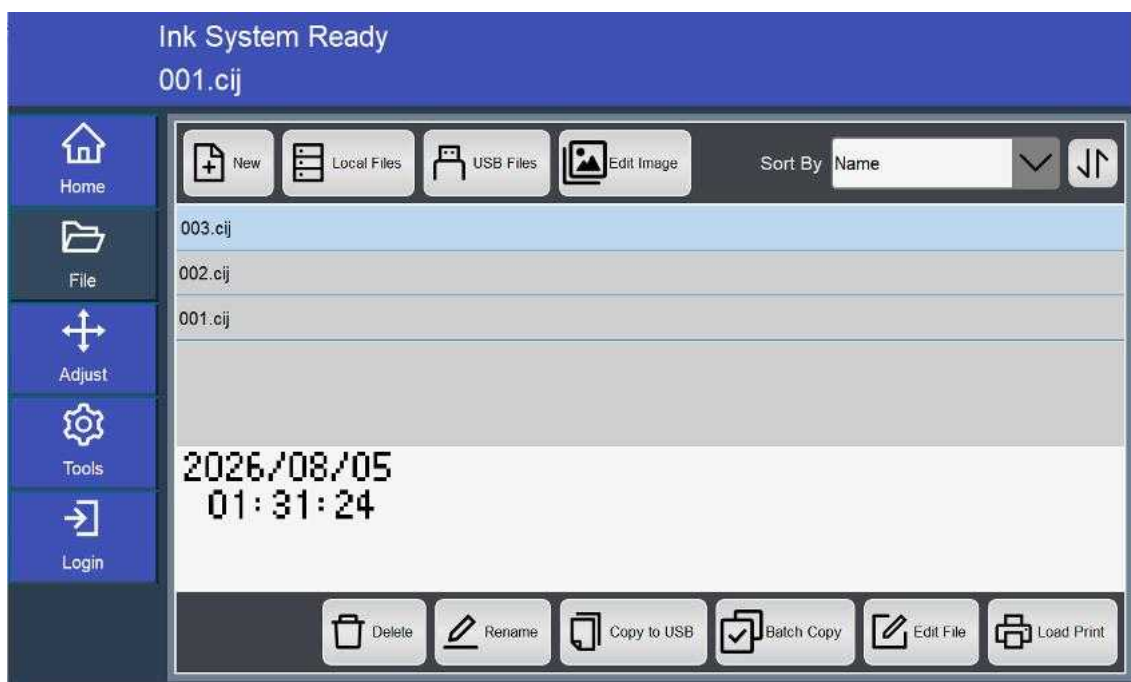

Figure 3-4 File List Interface
1. Tap the  or  button, and the system will display the list of files stored locally or on the USB flash drive, as shown in Figure 3-4 File List Interface.